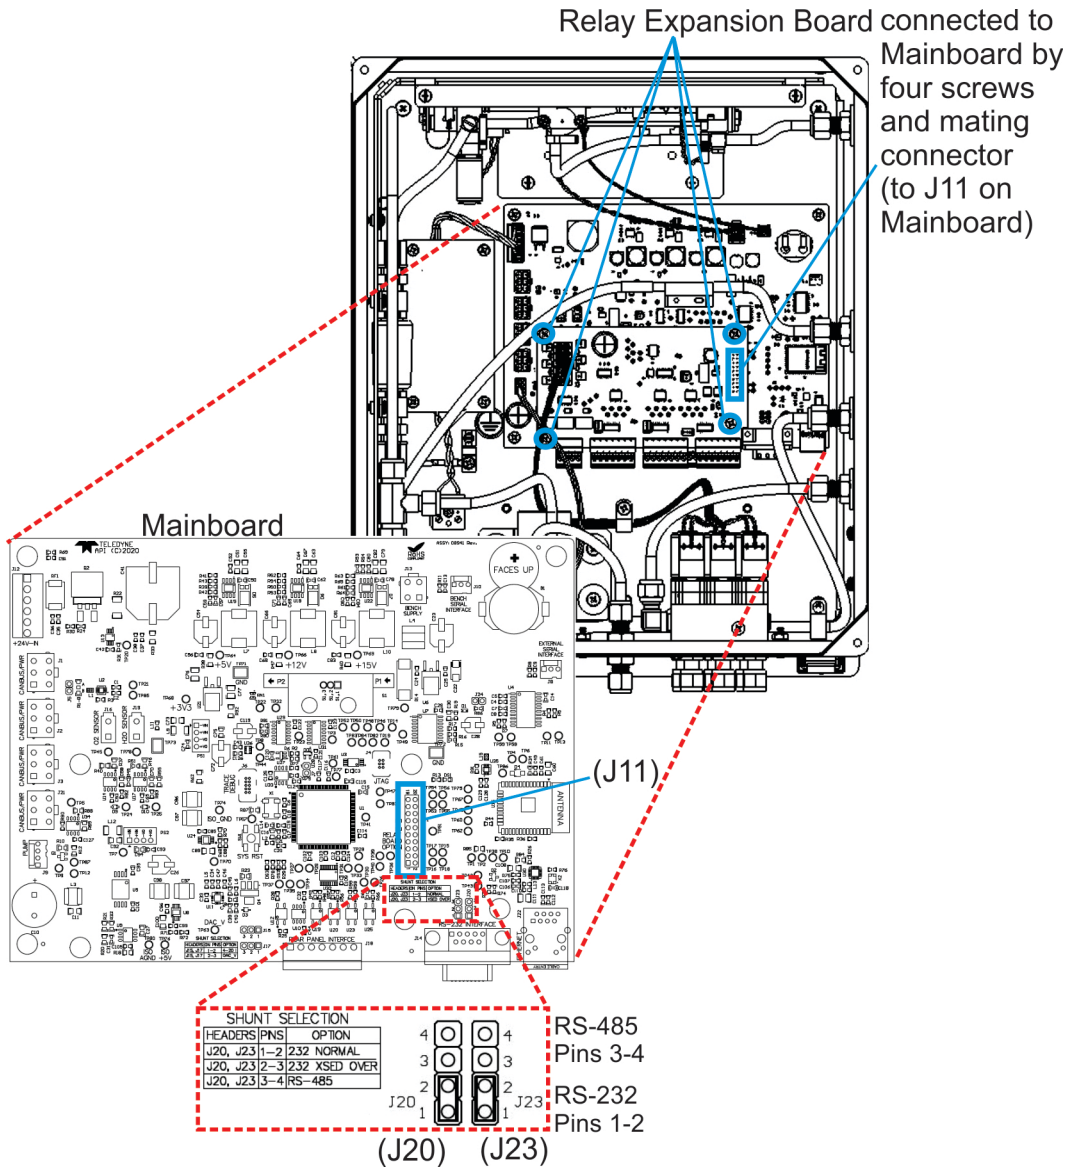

Figure 6-1. RS-232/RS-485 Signal Configurations
3. Locate J20 and J23 connectors on the Mainboard PCA (remove Relay Expansion board if installed as indicated in Figure 6-1).
4. Set the desired COM as shown in Figure 6-1 where: